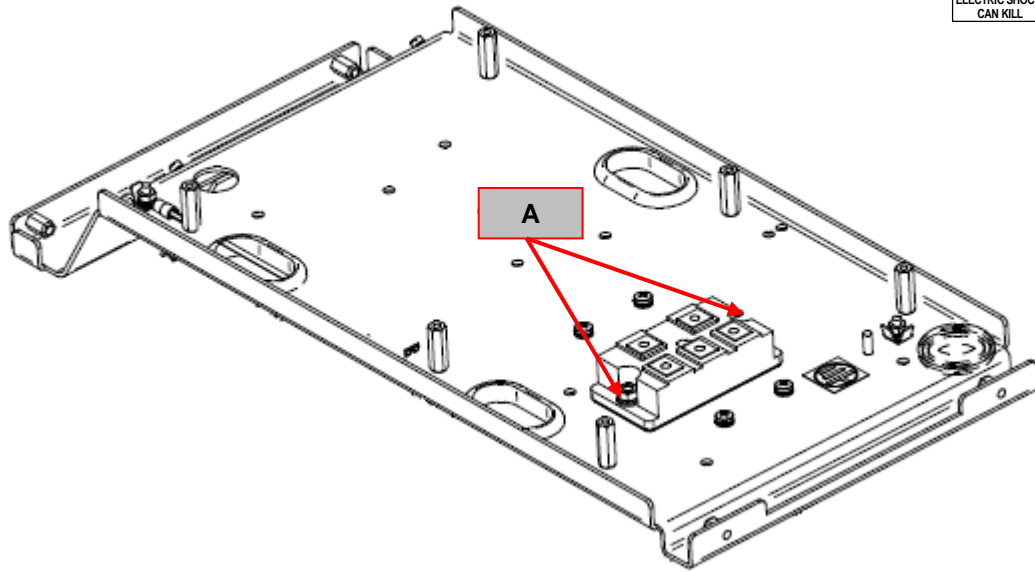

Figure 17
3. Locate the Input Rectifier Bridge. See **Figure 17**.